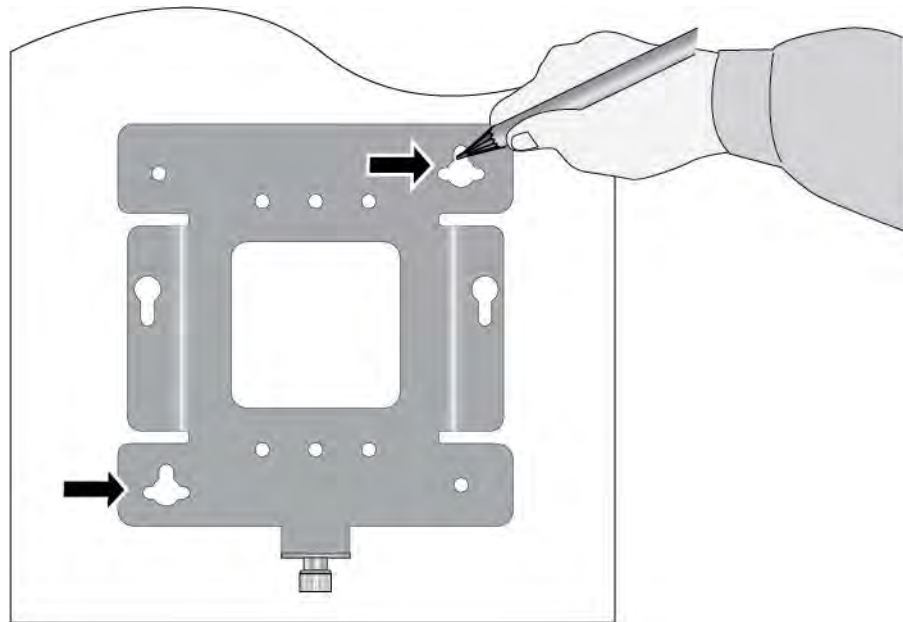

Figure 13. Marking the Holes for the Key-Hole Slots
3. With a pencil, mark the wall or ceiling with the two key-hole slots of the bracket. Refer to Figure 13.